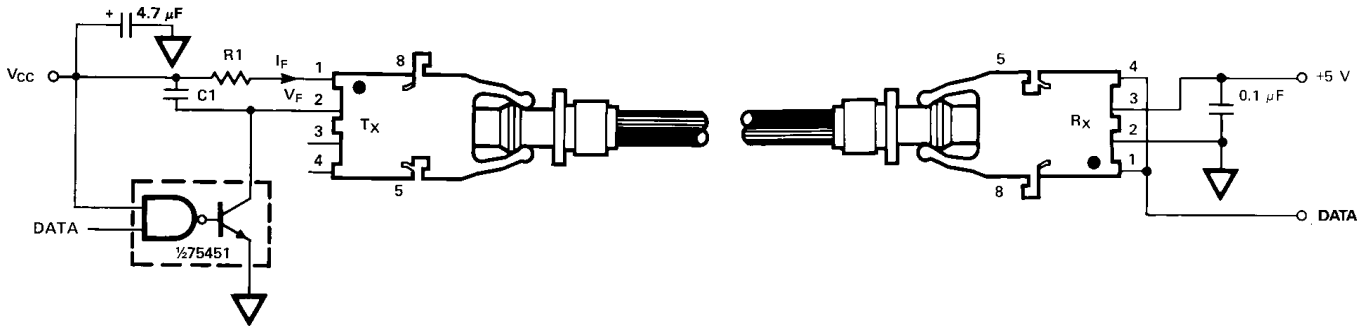

Figure 11. Required 1 Mbd Interface Circuit.
- The LED drive circuit of Figure 11 is required for 1 MBd operation of the HFBR-25X2/25X4.